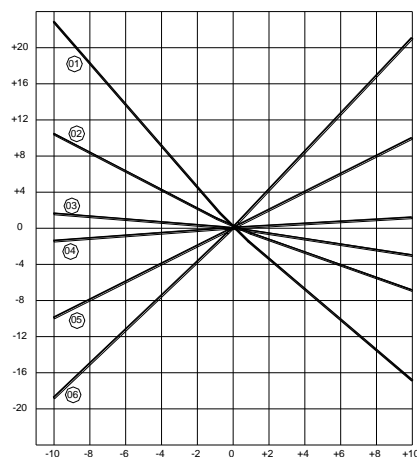
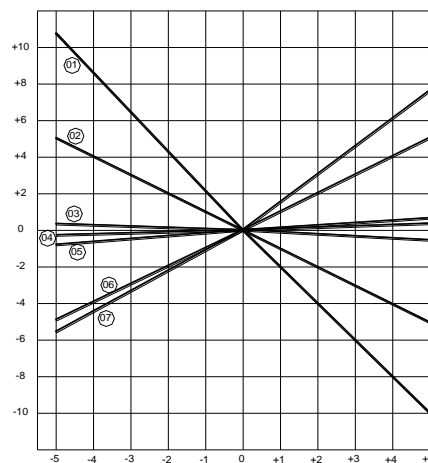

Figure 2.2: Voltage Variation percentage
Figure 2.3: Frequency Variation Percentage
The curves in Figure 2.3 and Figure 2.4 show the effect of voltage and frequency variations on the characteristics of the motor performance.
**Figure 2.2 legend:**
**Figure 2.3 legend:**
The effects shown in Figure 2.2 and Figure 2.3 are estimated and may vary depending on the motor type.